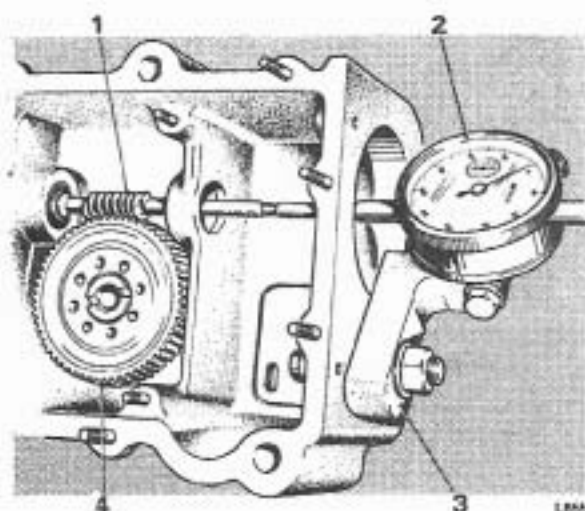

FIG. T149 CHECKING WORM SHAFT END FLOAT
5. Mount a dial test indicator so that the plunger rests on the end of the worm shaft (see Fig. T149).